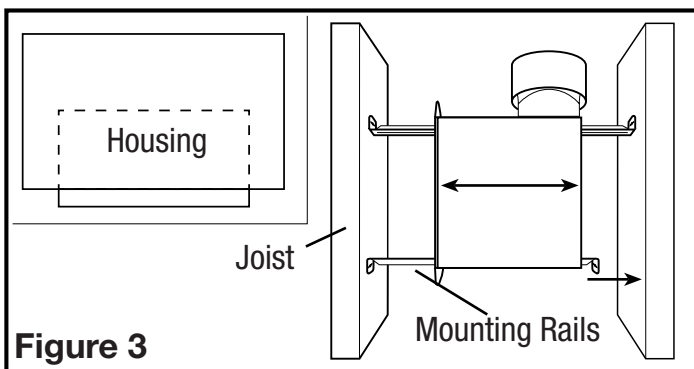
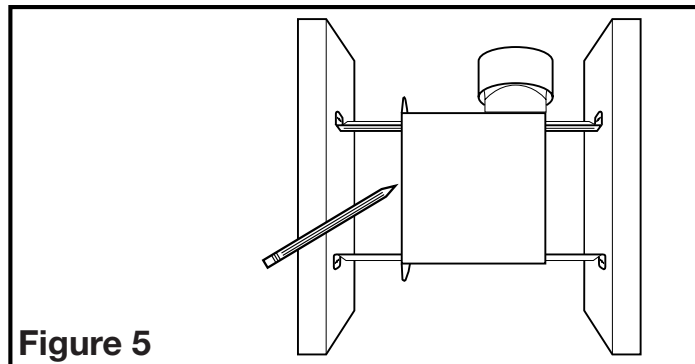

Figure 3
Figure 5
- 1a. **Mounting Rail Installation:** Install the rails on the housing and position the housing next to the joist. Using the gauge on the fan's housing, line up housing so that it will be flush with the finished ceiling. Secure the ends of the rails with screws or nails (not included) to the joists and slide the housing into the final position (**Figure 3**).
- 1a. **Mounting Rail Installation:** Set housing in position between the joist and trace an outline onto the ceiling material (**Figure 5**). Set housing aside and cut opening, being careful not to cut or damage any electrical or other hidden utilities. Install the rails on the housing and position the housing in the previously cut hole so that it is flush with the finished ceiling. Secure the ends of the rails to the joists (**Figure 3**).